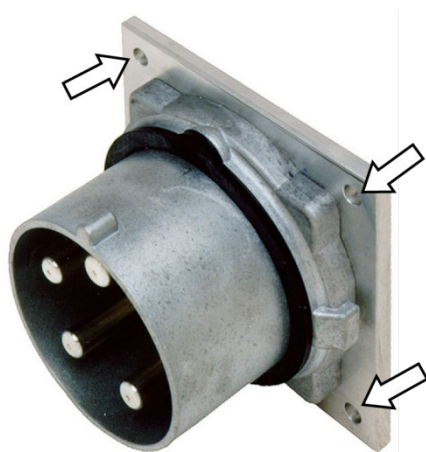

Fig. 54: Drill hole for installation
1. If necessary, install the Male Connector or Female Connector to a housing or the wall using drill holes (Fig. 54 /Arrows) .